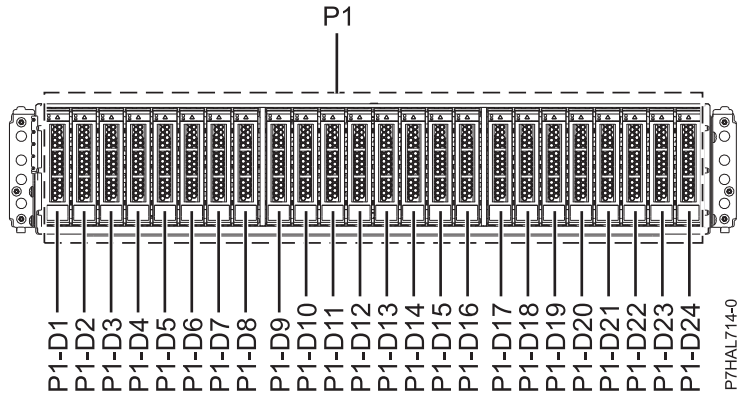
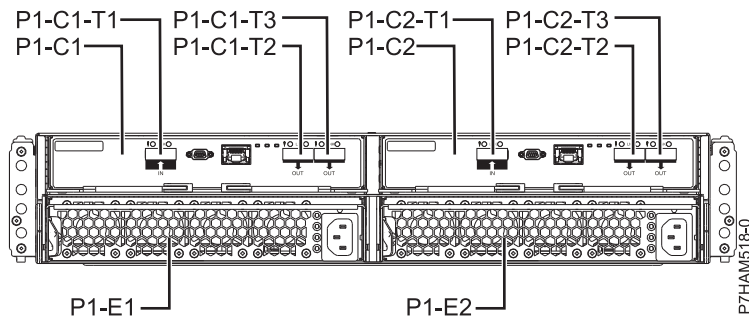

Figure 45. Front view of the 5887 disk drive enclosure showing the disk drive locations
Figure 46. Rear view of the 5887 disk drive enclosure
1. Identify the part and the enclosure that you want to service. The disk drive and SSD slots are located in the front of the enclosure. Figure 45 and Figure 46 show the front view and rear view of the 5887 disk drive enclosure and the disk drive locations in the 5887 disk drive enclosure.